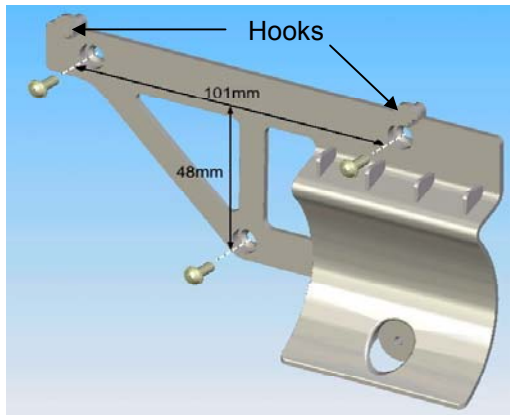

Figure 4: Bracket Mounting
1. Mount the VTR bracket to the wall with three screws, as shown in Figure 4.
2. Hang the VTR on the two hooks on the mounted bracket, as shown in Figure 4.